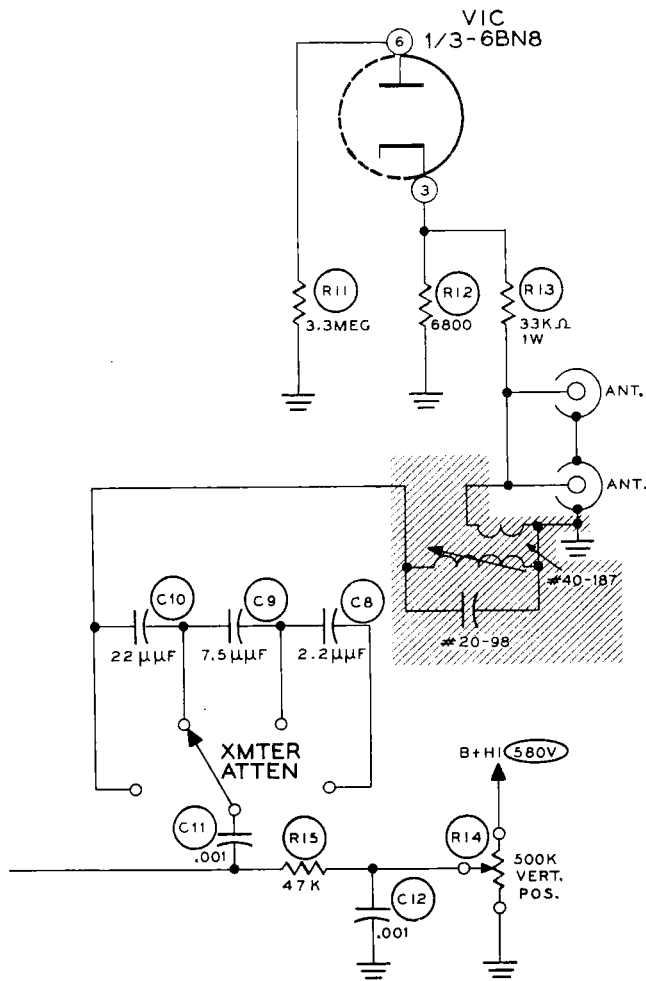

Figure 7
USE WITH CITIZEN'S BAND TRANSCEIVERS (FIGURE 7)
1. Install a coil and capacitor in the Scope vertical input circuit as shown in Figure 7. The coil and capacitor can be obtained from Heath Company. Their part numbers are coil #40-187 and capacitor #20-98.